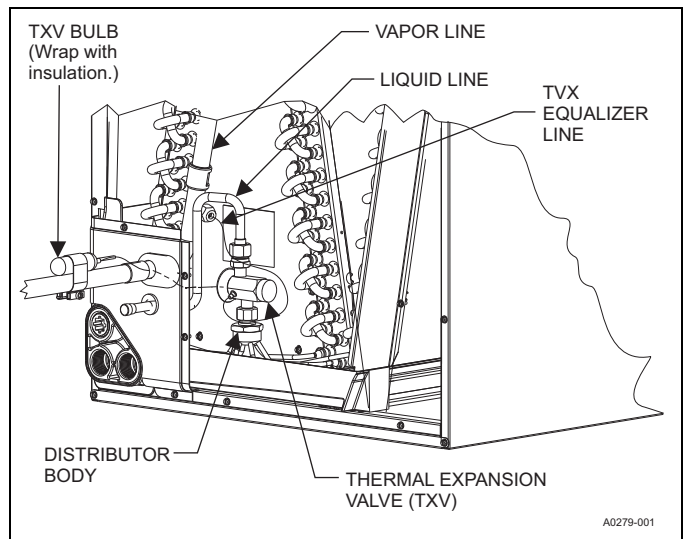

FIGURE 7: TXV Bulb and Equalizer Line Installations
- Install the TXV equalizer line onto the vapor line by hand tightening the 1/4" SAE coupling nut to the equalizer fitting, and apply an additional 1/3 turn to seal. See Figure 7.
8. Install the TXV bulb to the vapor line near the cabinet, using the bulb clamp(s) furnished with the TXV assembly. Ensure the bulb is making maximum contact. See Figures 7 and 8.